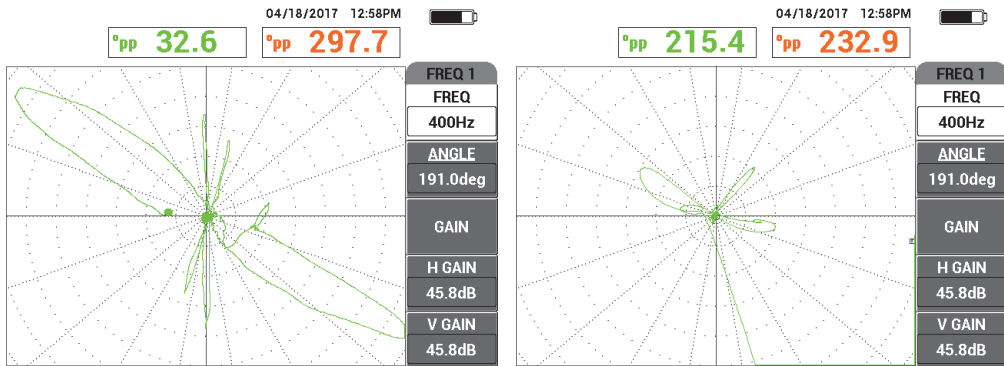

Figure 5-197 A slow scan rate (optimal signal, *left*) and a fast scan rate (loss of signal, *right*)
- Slowly scan the entire length of the tube, and press the FREEZE key (❄️) when done (see Figure 5-197 on page 268).